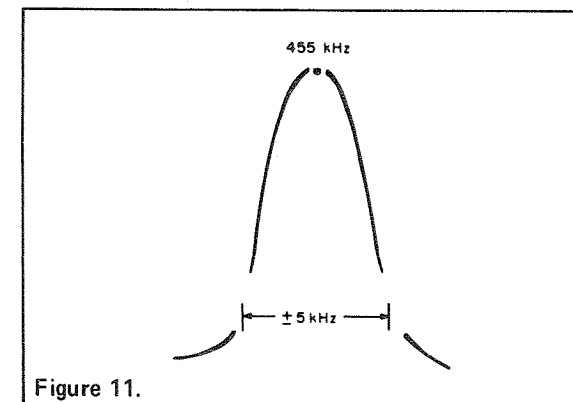

Figure 11.
- (2) Connect vertical input of scope to Test Point 302 (pin 3Q on AM/FM IF, MPX board). Connect scope ground to pin 3G. Set scope vertical input sensitivity to approximately 200 mV/cm.
- (3) Adjust generator level and sweep to observe IF response curve. Set generator output as low as possible.
- (4) Adjust top and bottom cores of Z303, Z301 (on AM/FM IF, MPX board), and Z702 (on AM RF board) for maximum gain and symmetry. Repeat alignment until maximum gain and symmetry are obtained (see Figure 11).